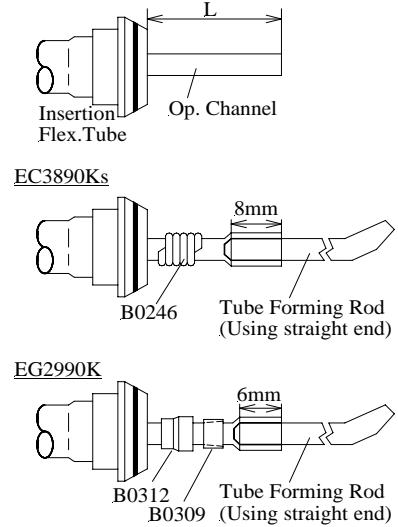

Fig.4-1-2
- 3) Place Channel Retaining Coil (B0246) for EC3890Ks or OP Channel Retaining Nut (B0312) and OP Channel Retaining Collar (B0309) for EG2990K onto Operation Channel as shown in Fig.4-1-2.